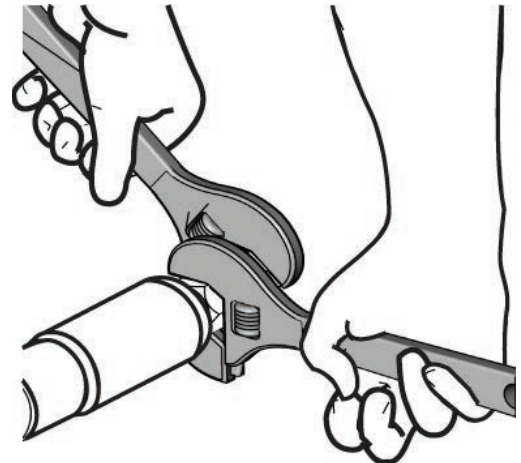

FIG. 1: Heated Hose to Fluid Port Connector
- b. Connect the heated hose to the melter fluid outlet starting with the bottom port. Use two wrenches to torque the hose to 300 in-lb. See FIG. 1.